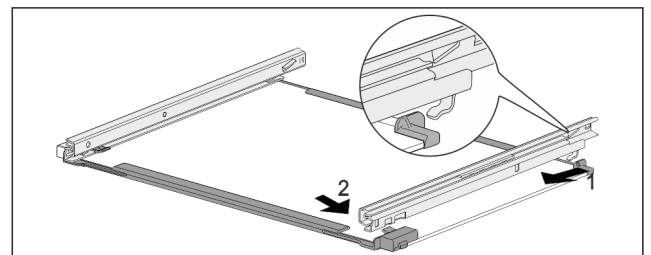

Fig. 130 Glass shelf with rails
- ▶ Hook in rail at the back. Fig. 130 (1)
- ▶ Hook in rail at the front. Fig. 130 (2)